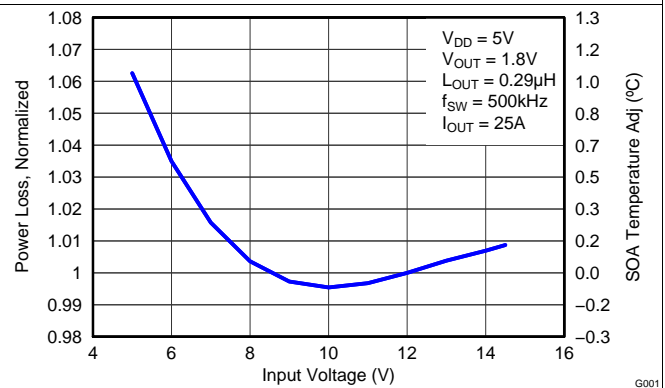

Figure 7. Normalized Power Loss vs Input Voltage
- Normalized Power Loss for input voltage ≈ 1.02 (Figure 7)
- SOA adjustment for input voltage $\approx 0.3^{\circ}\text{C}$ (Figure 7)